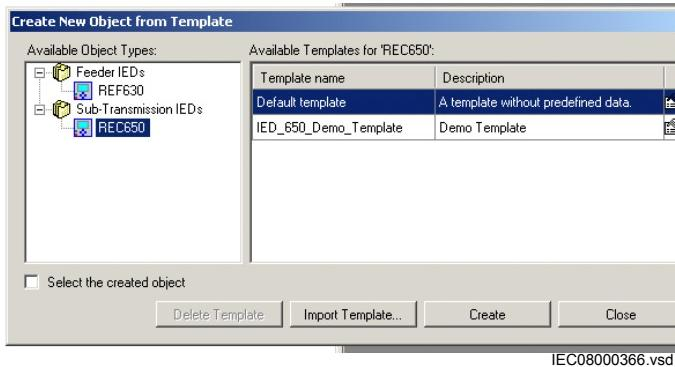

Figure 27: PCM600: Selecting IED from template library
2. Select *New* and *Create from Template ...* to open the *Create New Object from Template* window, see Figure 27.
5. Click *Delete Template* to delete the template, click *Import Template* to import a template from the selection window or click *Create* to insert the selected IED to the bay, see Figure 27.